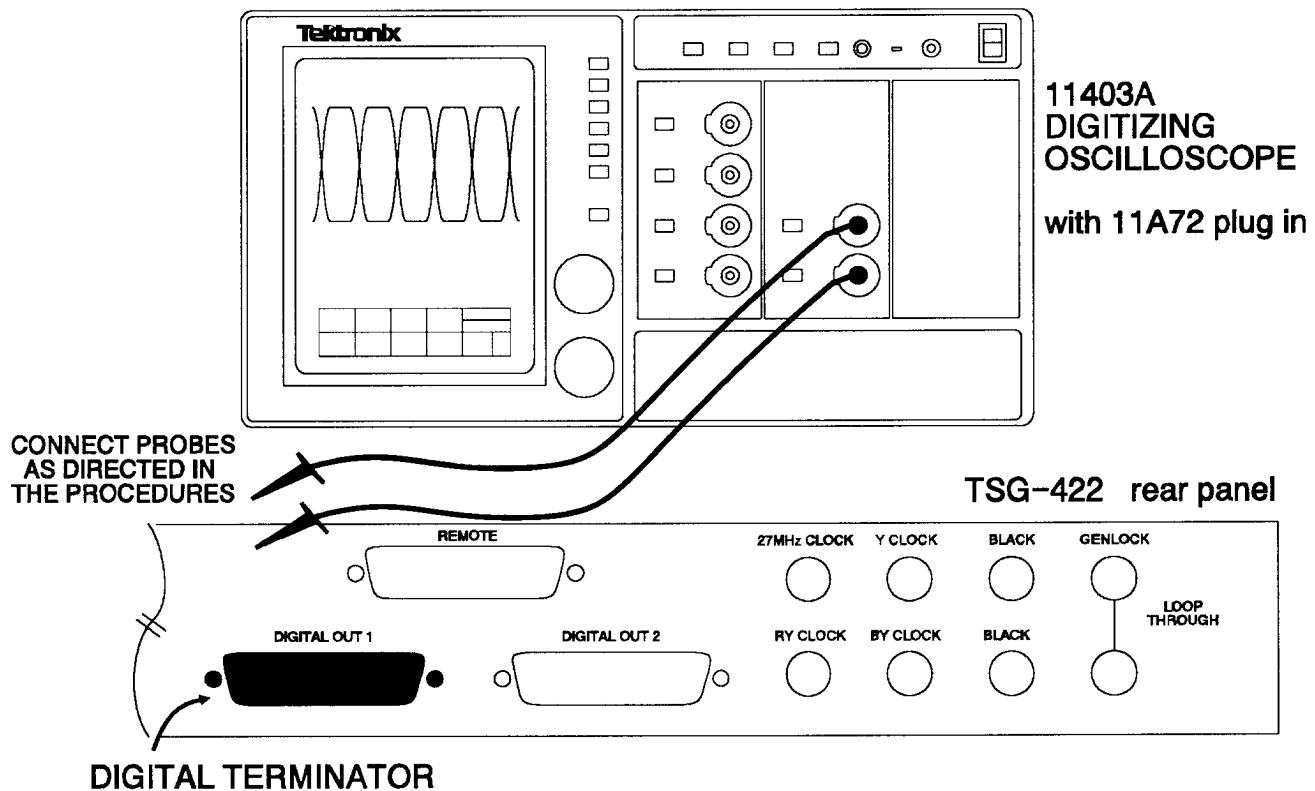

Fig. 5-3. Setup to check the DIGITAL VIDEO Outputs.
- a. Connect the equipment as shown in Fig. 5-3.
- b. Adjust the horizontal position on the oscilloscope to center the data crossing point (X).